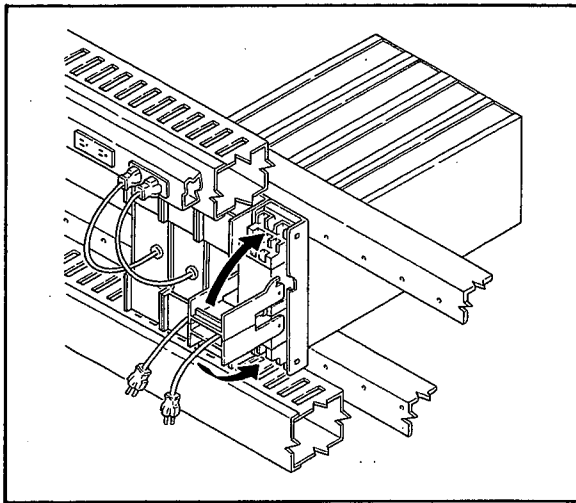

Figure 4-8. Housing the Inner Instrument.
- (5) Replace the terminal board cover and insert the the power plug into the power outlet. (See Figure 4-8.)